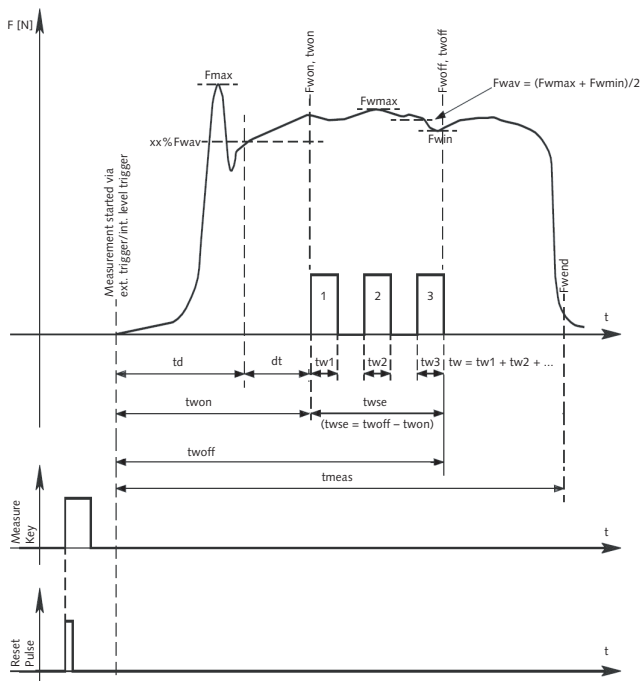

Fig. 5: Evaluation of welding curve in pulse welding
- t_w Duration of the welding process (weld signal); with impulse welding, this is the total time of the individual pulses without pauses (see Fig. 5).
- t_{wse} Total time of the welding process in pulse welding (total time of the individual pulses with pauses; see Fig. 5).